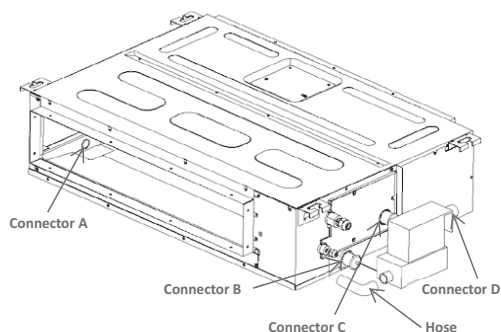

Fig. 20 — Condensate lift pump installation size 18K
- Connect the drainpipe to the connector D (see Fig. 20).